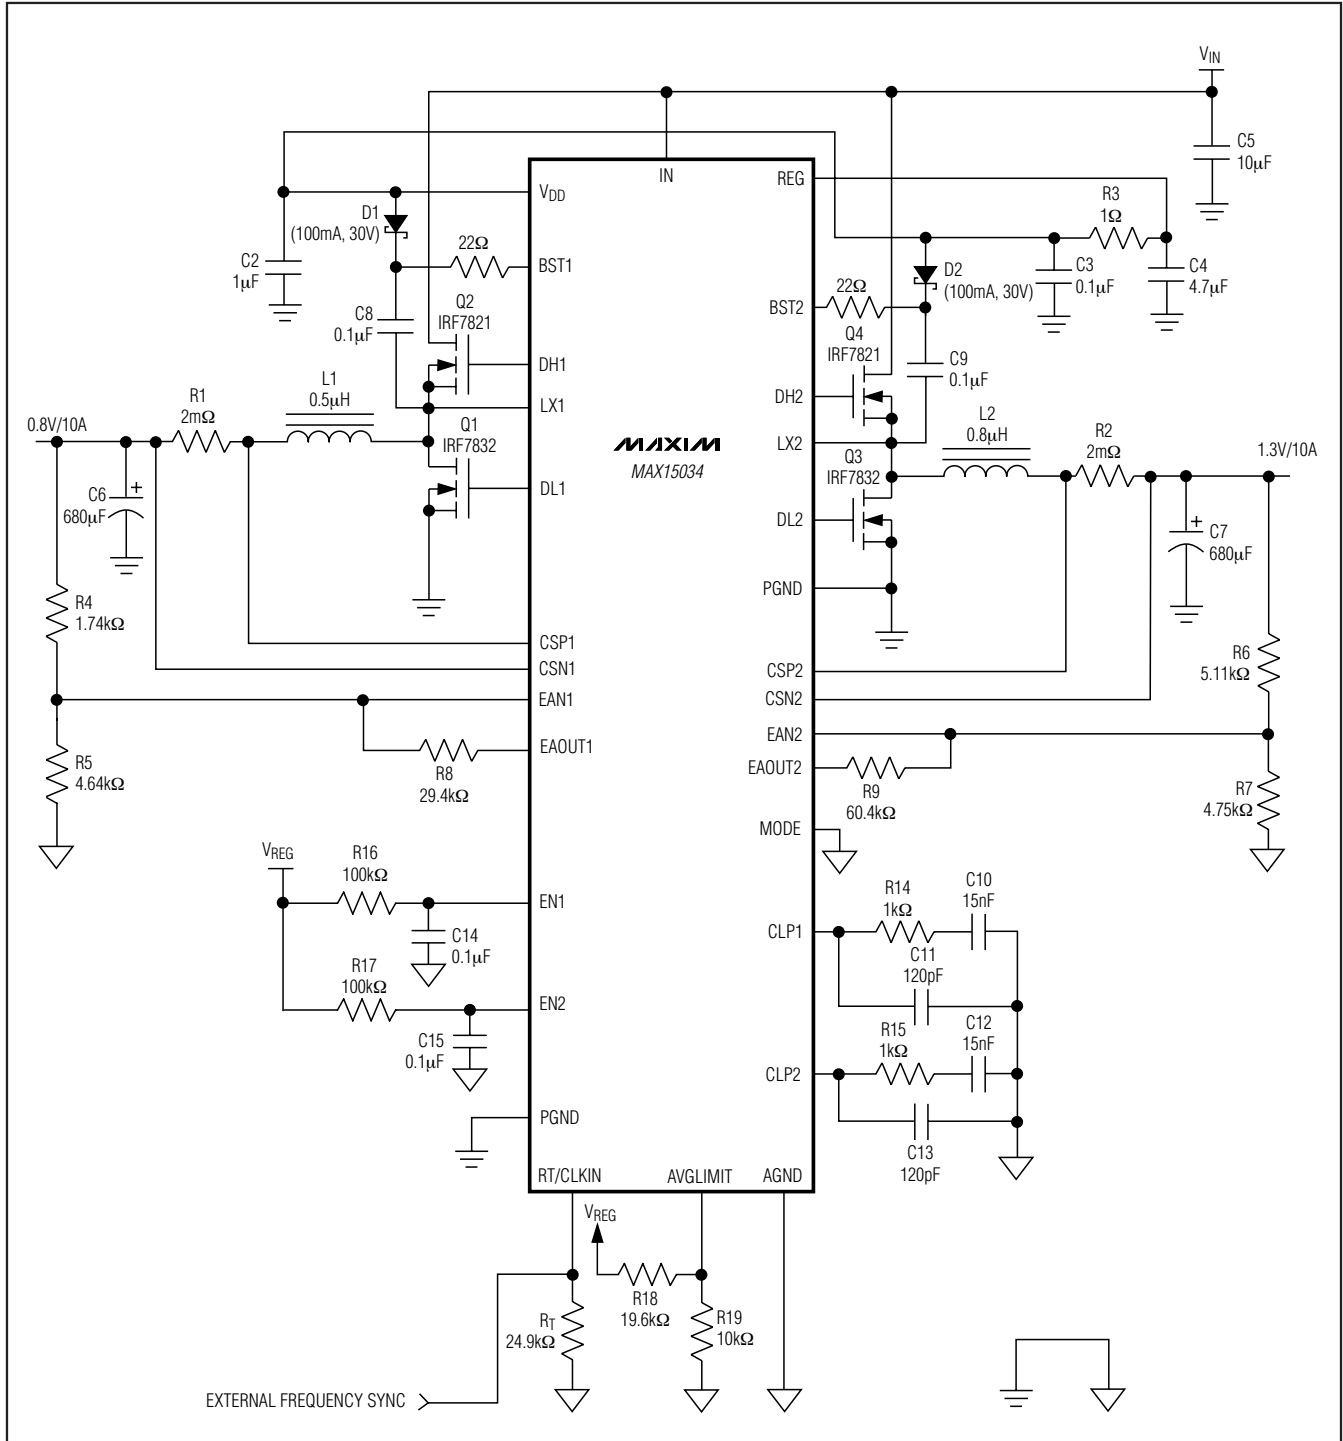
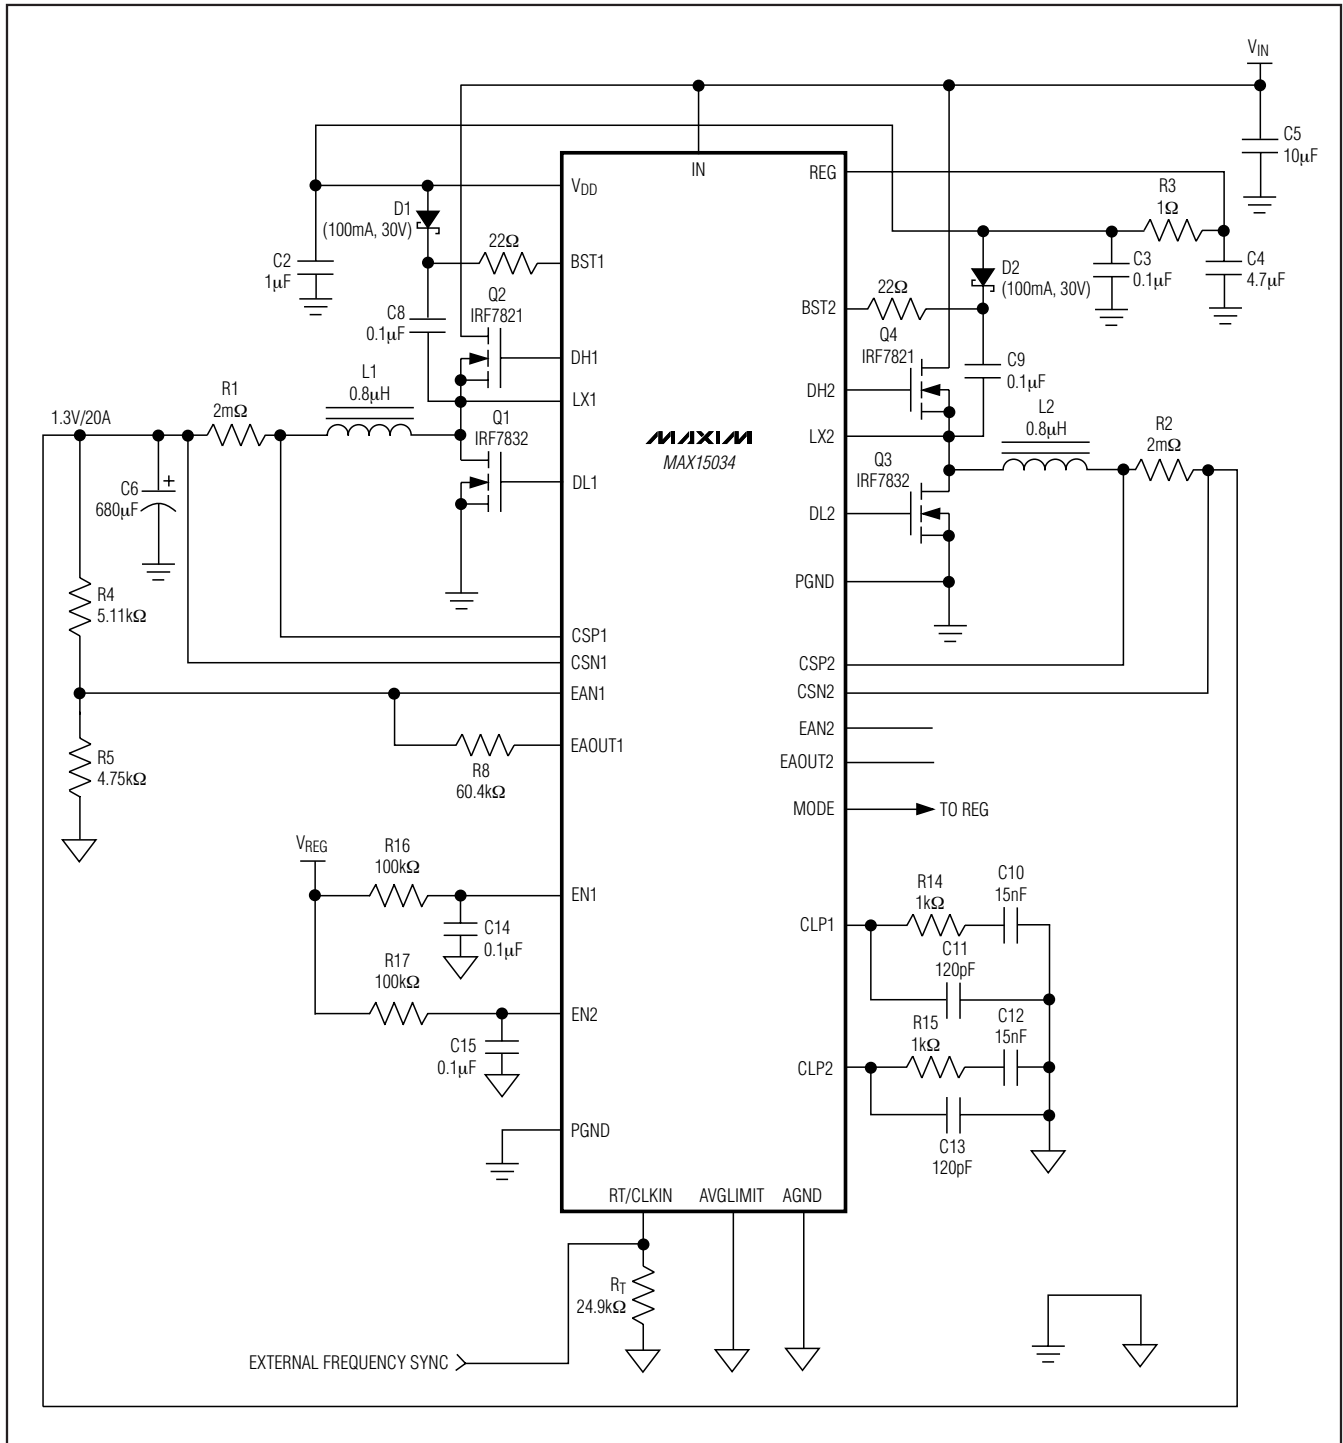

Figure 6. Dual-Output Buck Regulator
Figure 7. Dual-Phase, Single-Output Buck Regulator
where IIN is the quiescent supply current into IN (4mA, typ), QGQ1, QGQ2, QGQ3, QGQ4 are the total gate charges of MOSFETs Q1 through Q4 at VGS = 5V (see Figure 6), and fsw is the switching frequency of each individual phase.
BST1 and BST2 supply the power for the high-side MOSFET drivers for output 1 and output 2, respectively. Connect BST1 and BST2 to VDD through rectifier diodes D1 and D2 (see Figure 6). Connect a 0.1µF ceramic capacitor between BST_ and LX_.
Minimize the trace inductance from BST_ and VDD to the rectifier diodes, D1 and D2, and from BST_ and LX_ to the boost capacitors, C8 and C9 (see Figure 6). This is accomplished by using short, wide trace lengths.
The compensation network at the current-error amplifiers (CLP1 and CLP2) provides an inherent soft-start of the output voltage. It includes (R14 and C10) in parallel with C11 at CLP1 and (R15 and C12) in parallel with C13 at CLP2 (see Figure 6). The voltage at the current-error amplifier output limits the maximum current available to charge the output capacitors. The capacitor at CLP_ in conjunction with the finite output-drive current of the current-error amplifier yields a finite rise time for the output current and thus, the output voltage.
An internal oscillator generates the 180° out-of-phase clock signals required for both PWM modulators. The oscillator also generates the 2Vp-p voltage ramps necessary for the PWM comparators. The oscillator frequency can be set from 200kHz to 2MHz by an external resistor (RT) connected from RT/CLKIN to AGND (see Figure 6). The equation below shows the relationship between RT and the switching frequency:
cycle is less than 50%, choose high-side MOSFETs (Q2 and Q4, Figure 6) with a moderate $R_{DS(ON)}$ and a very low gate charge. Choose low-side MOSFETs (Q1 and Q3, Figure 6) with very low $R_{DS(ON)}$ and moderate gate charge. The driver block also includes a logic circuit that provides an adaptive nonoverlap time (30ns typ) to prevent shoot-through currents during transition. Figure 7 shows the dual-phase, single-output buck regulator.
where I_{MAX} is the full load current of the regulator. V_{OUT} is the output voltage of the same regulator and C_{IN} is C5 in Figure 6. The ESR of the input capacitors wastes power from the input and heats up the capacitor. Reducing the ESR is important to maintain a high overall efficiency and in reducing the heating of the capacitors.
where I_{LOAD_STEP} is the step in load current and $t_{RESPONSE}$ is the response time of the controller. Controller response time depends on the control-loop bandwidth. C_{OUT} is C6 and C7 in Figure 6.
where ΔV_{OUT} is the allowable drop in voltage from no load to full load. R_F is R_8 and R_9 , R_1 is R_4 and R_6 , R_2 is R_5 and R_7 in Figure 6.